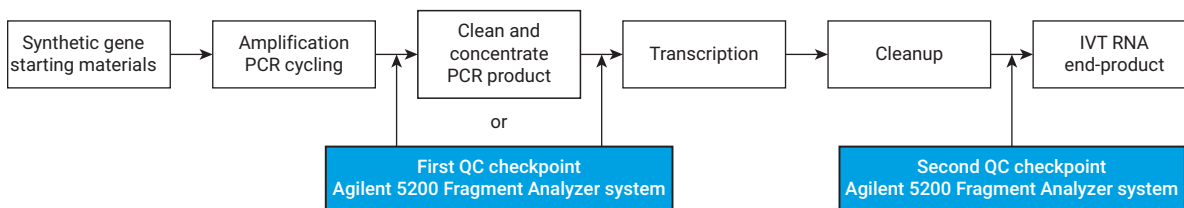

Figure 1. The Agilent 5200 Fragment Analyzer system provides dependable quality control analysis throughout the IVT process.
The importance of quality control (QC) in laboratory processes is often overlooked but should be considered an essential part of every procedure. Parallel capillary electrophoresis solutions from Agilent provide the benefit of extremely sensitive, reliable, and high throughput QC for *in vitro* transcription (IVT) RNA applications. These solutions help to deliver a consistent and reproducible RNA product. RNA is prone to degradation due to temperature and ever-present RNases. Hence, there are two critical QC checkpoints in the IVT RNA workflow to ensure the production of quality RNA: after amplification and after transcription (Figure 1). The Agilent 5200 Fragment Analyzer system aids in determining if the PCR amplification, transcription, and product cleanup procedures were successful. Detection of degraded, contaminated, or otherwise unsuitable RNA allows researchers to rework or remove these samples early in the process. Analyzing IVT RNA starting material for downstream applications confirms it meets or exceeds quality requirements and ensures that the experiment is starting off in the right direction.